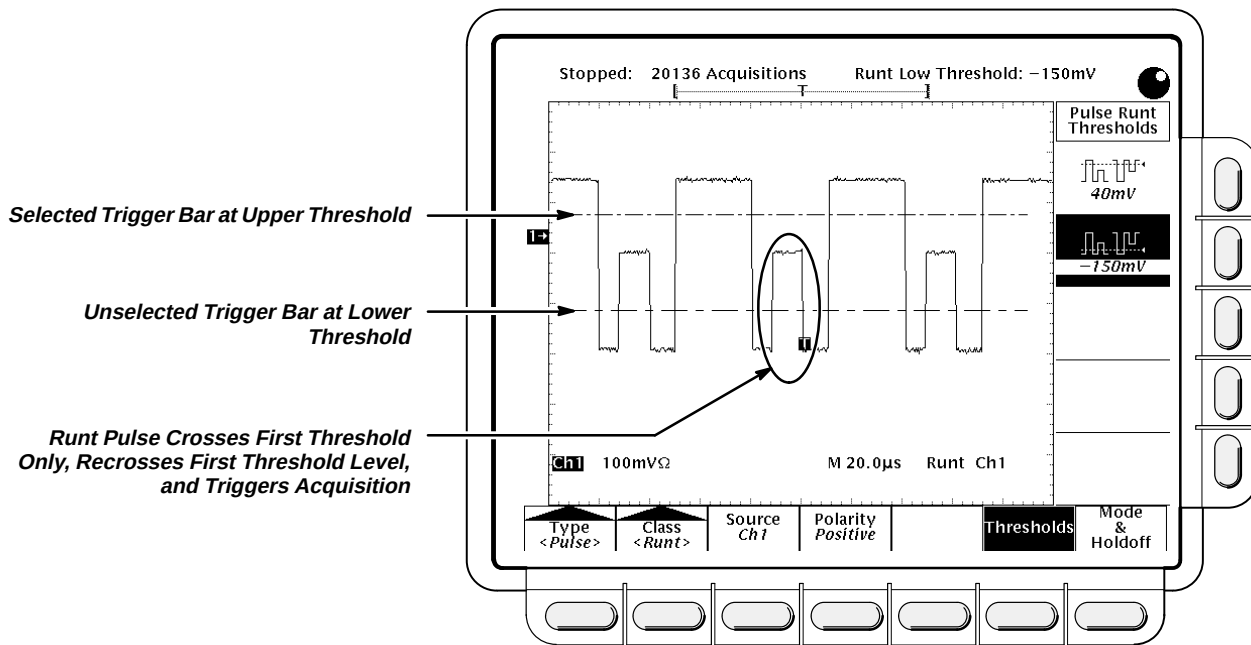

Figure 3-47: Main Trigger Menu—Runt Class
1. Press **TRIGGER MENU** → **Type** (main) → **Pulse** (pop-up) → **Class** (main) → **Runt** (pop-up) → **Source** (main) → **Ch1, Ch2, Ch3** (Ax1 for the TDS 520), or **Ch4** (Ax2 for the TDS 520) (side). (See Figure 3-47.)
Note the position of the trigger indicator in Figure 3-47. Triggering occurs at the point the pulse returns over the first (lower) threshold going negative without crossing the second threshold level (upper). Be aware of the following considerations when using Runt triggering: